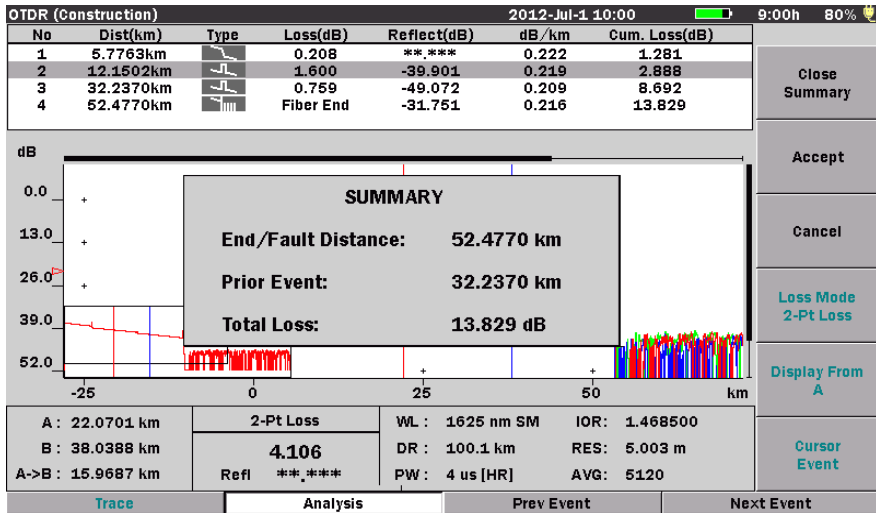

Figure 6-25: OTDR (Construction) Summary screen
10. At the conclusion of the data collection and analysis, the OTDR (Construction) Summary screen appears (see Figure 6-25 on page 6-64).